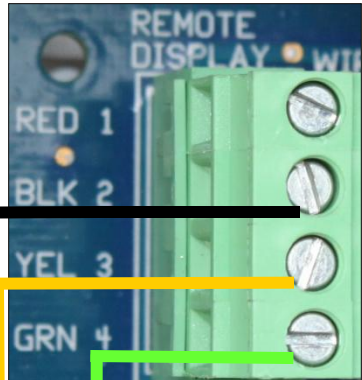
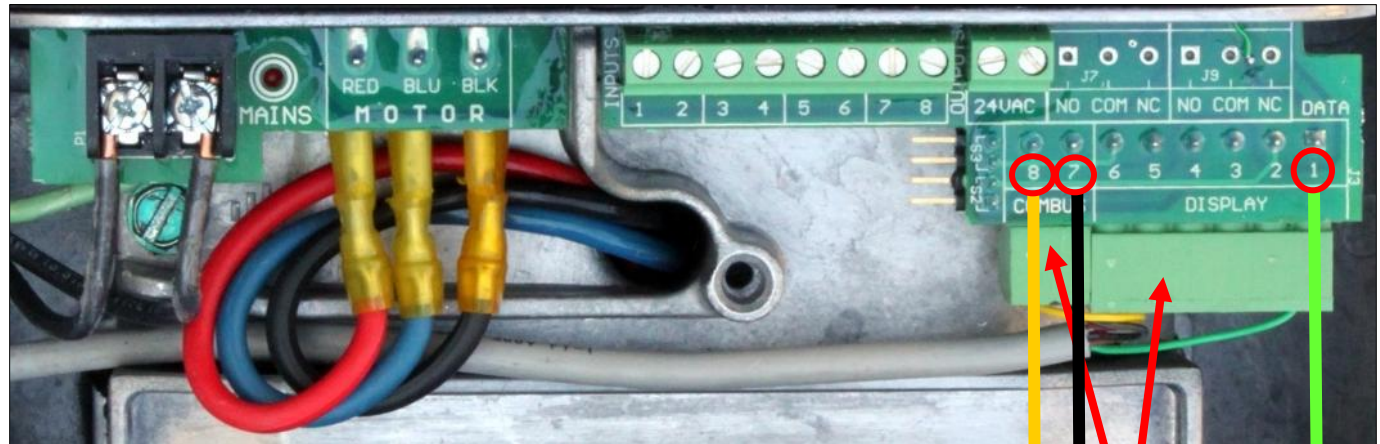

Figure 22
Figure 23
2. Remove the two data plugs (COMBUS & DISPLAY) from the wiring compartment (fig 23) and the 4 connector data plug from the controller (fig 22). Wire 7 on the pump to 2 on the controller, 8 on the pump to 3 on the controller and 1 on the pump to 4 on the controller as shown (fig 22 & 23). Reinstall plugs. Wire colors can be different as those shown as long as they match point to point.